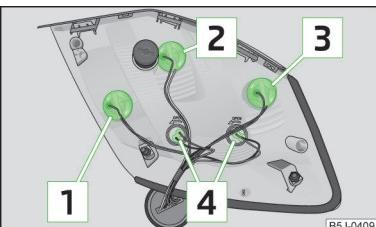

Fig. 163
Bulb location » Fig. 163.
- To replace the bulb, turn the bulb holder **anti-clockwise** to the stop and remove it from the housing » Fig. 163.